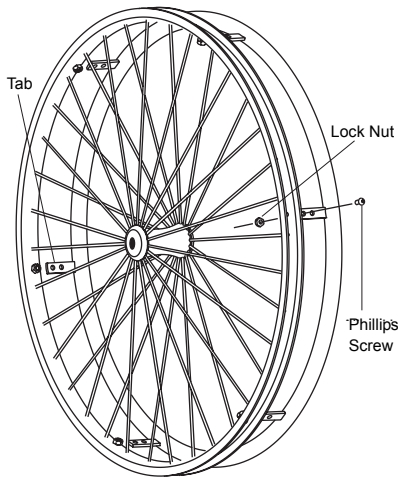

Figure 122
- strip to one side, hold the Phillips Screws with a screw driver and remove the locknuts that secure the handrim tabs to the rear wheel. See Figure 122.
5. Install the new handrim by reversing the procedures in step 3 above. **Note:** Your handrim may have two (2) holes on each tab as shown in Figure 122. If you choose to install the handrim in the position closest to the wheel, cut off the extra length of tab. Otherwise it could catch on your clothing or body.